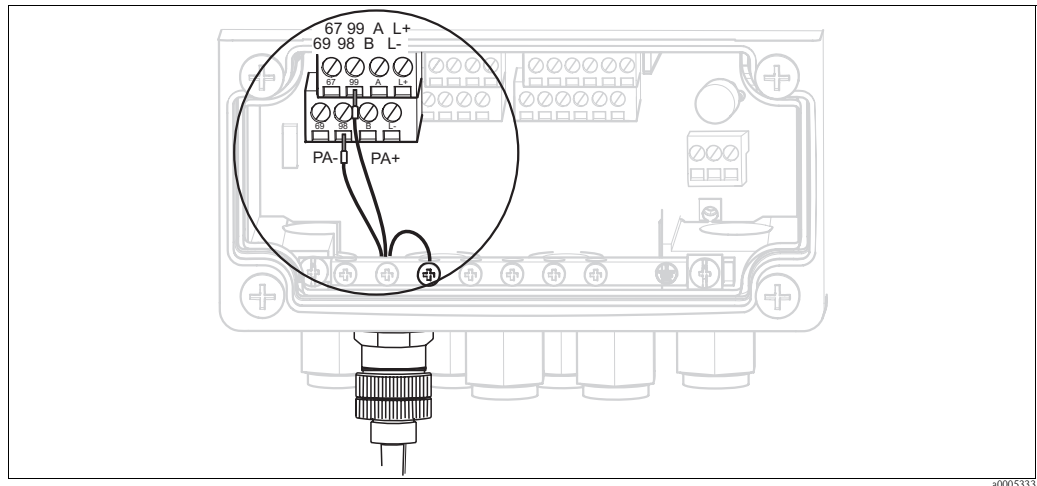
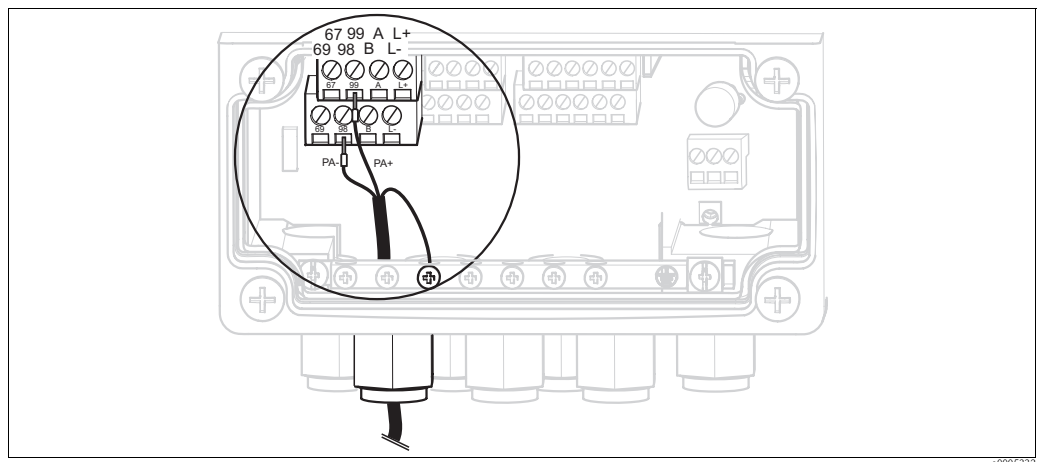

Fig. 33: Bus cable connection with M12 connector
Fig. 34: Bus cable connection without M12 connector
3. Connect the cable cores of the bus cable to the terminal block as shown in Fig. 33 or Fig. 34. Switching polarity at the PA+ and PA- connections does not have any effect on operation.